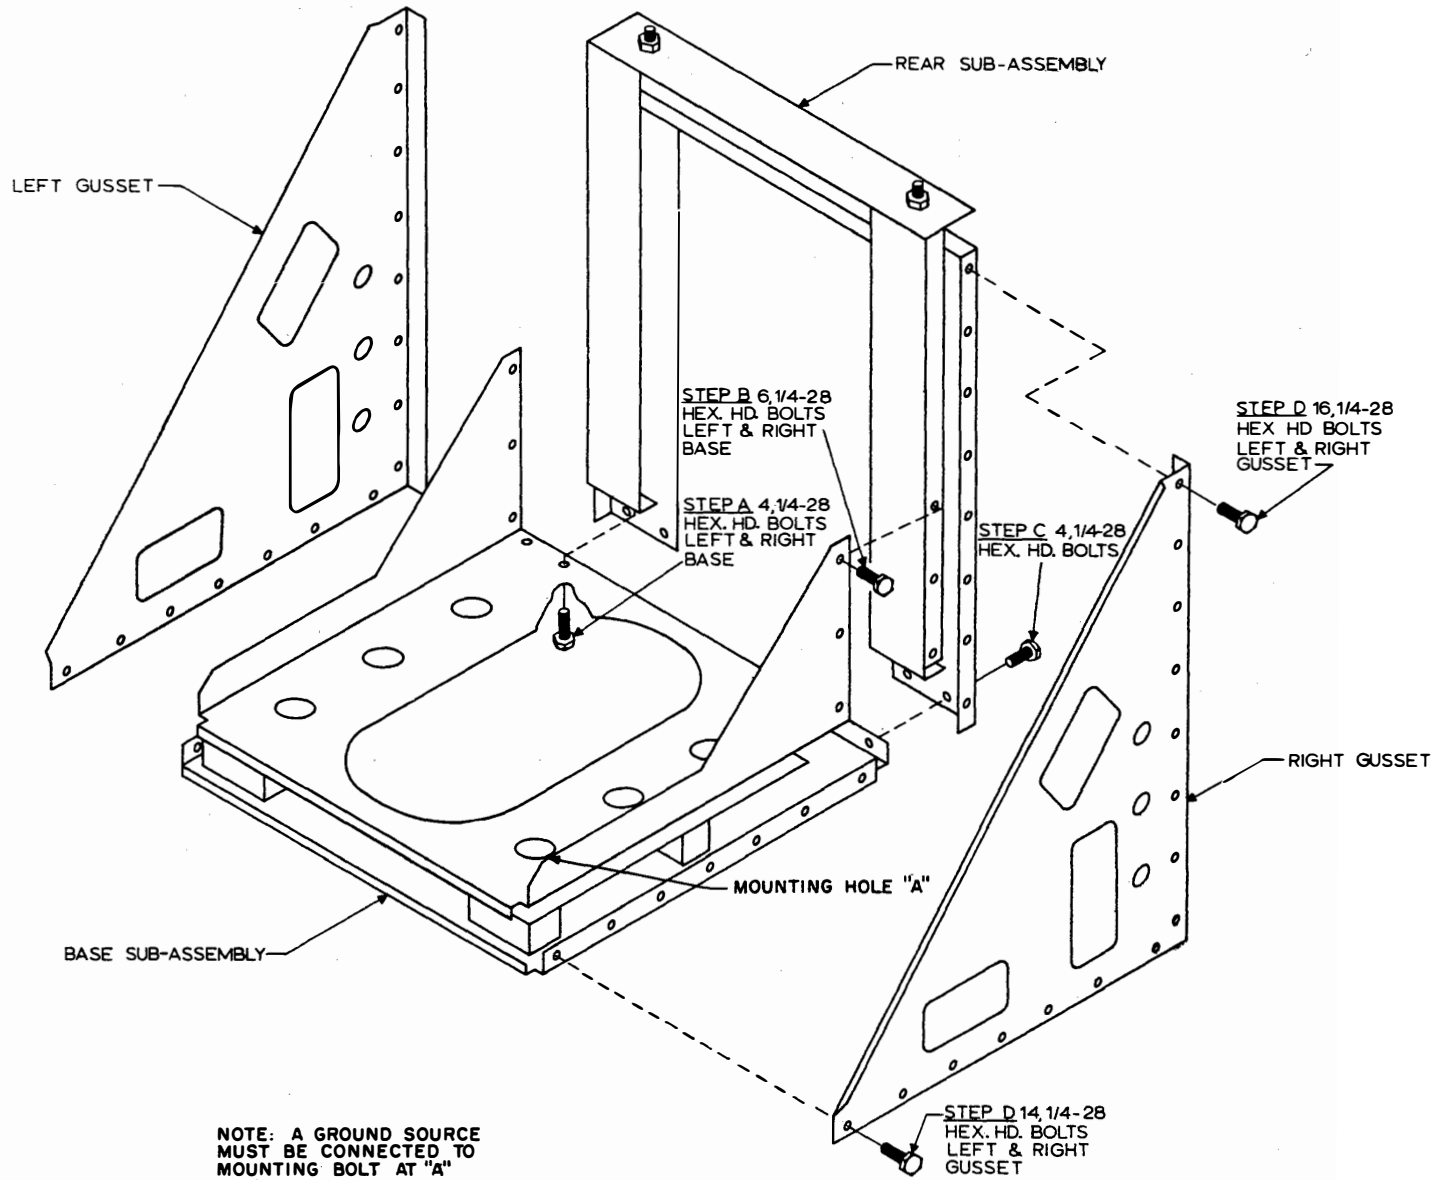

Figure 2-7. Mounting MT-2293A/WRR-2, Assembly Details
For safety of personnel, cabinet must be grounded. For AN/WRR-2A receiver, mounting bolt (see figure 2-7) grounds to a metal table. A wood table will require a ground wire. For AN/FRR-59A receiver, flange plates ground cabinet to rack which in turn must be grounded.
**b. MOUNTING CRADLE (FOR AN/WRR-2A ONLY).** (See figure 2-7).—Mounting MT-2293A/WRR-2 consists of a base, a back, and two side gussets for support. It is shipped disassembled in its own carton. Assembly and mounting procedures are as follows:
(a) Stand the rear subassembly at the rear of the base, as shown in figure 2-7. Insert four bolts upward through the tray of the base. Install four elastic stop nuts and tighten slightly.